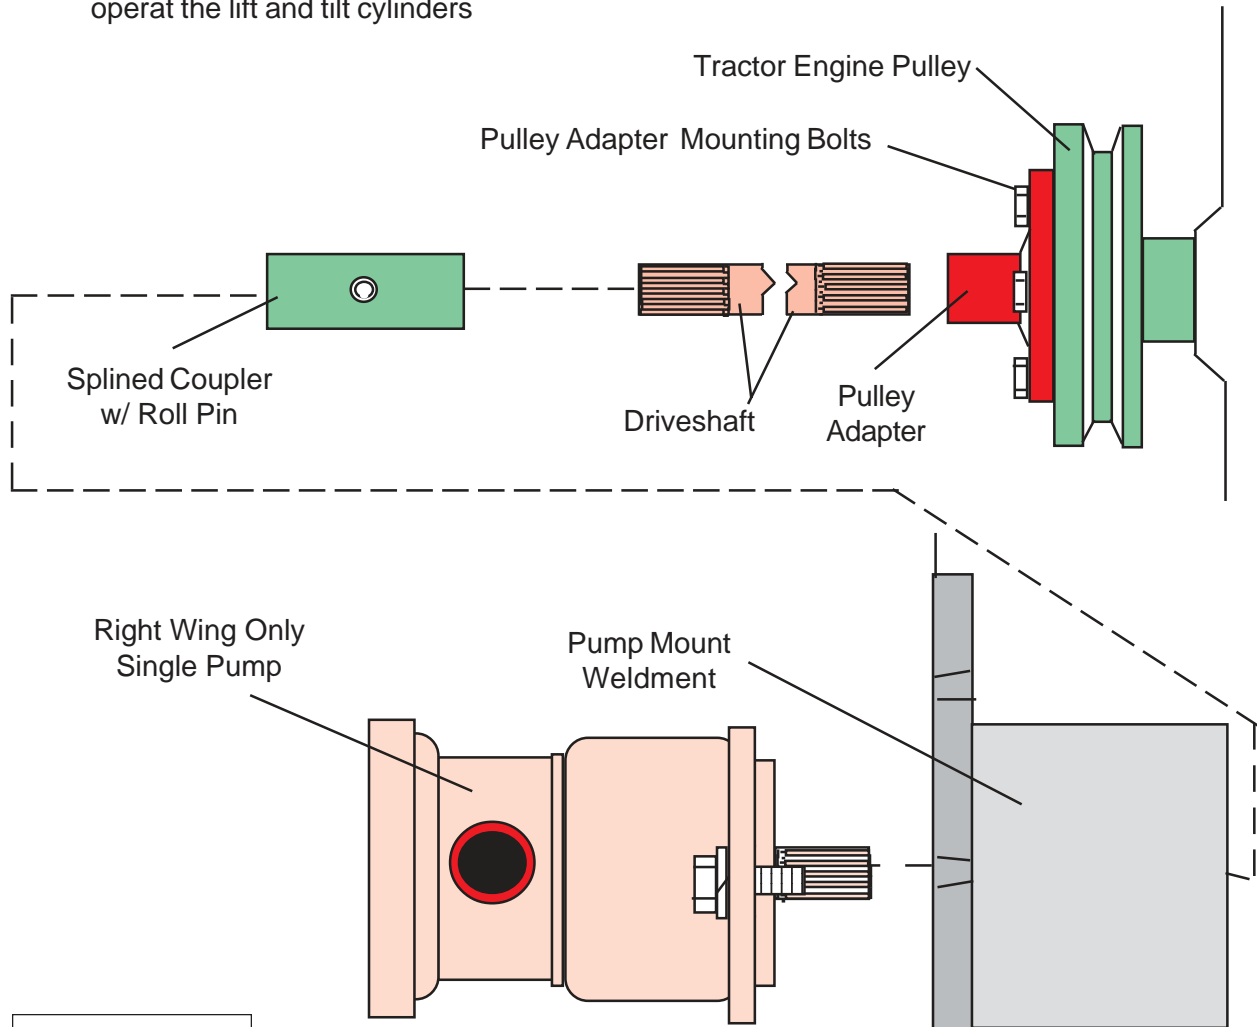

Figure 1
4. Crankshaft Pulley Adapter. The crankshaft pulley adapter (P/N 02974786) uses four 7/16" bolts (P/N 02975781) ,Hex Head 7/16"-NF X 1-3/4" PL GR8 and four 7/16" Lockwashers (P/N 00022200). The pulley adapter comes with four robber coated steel grommets (Replacement P/N 02964620). Make certain these grommets are installed and centered. The Pulley adapter will be slid down into the engine compartment from the side (LH or RH side will work). Install the four bolts and lockwashers that mount the adapter to the engine crankshaft. Make certain that everything is aligned and tighten the for retaining bolts. The steel sleeve inside the rubber grommet will carry the force of tightening the mounting bolts not the rubber part of grommet. Pulley Adapter has a 7/8" X 13 spline sleeve built into the center of it (See Figure 1, 2 3 & 4).